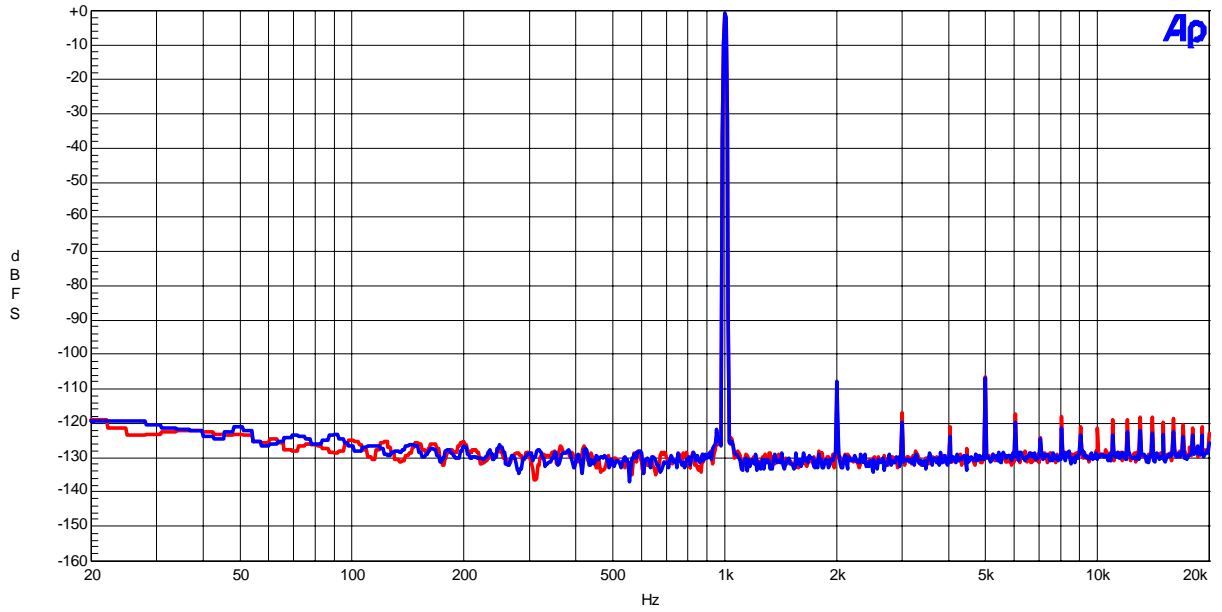

Figure 7 (Input=-0.5dBFS, fin=1kHz)
- Figure 7 FFT (1kHz, 0dBFS input)